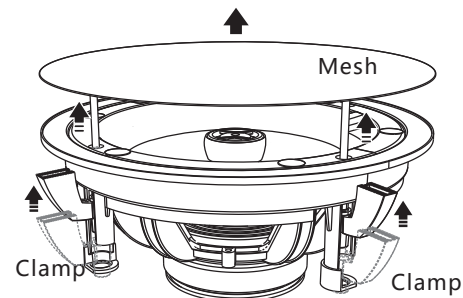

Figure 2
- ③ Push any two clamps of the speaker towards the mesh, and the screws on the clamps will be pushed out of the speaker mesh, and then remove the mesh and put it in a place (as shown in Figure 2).